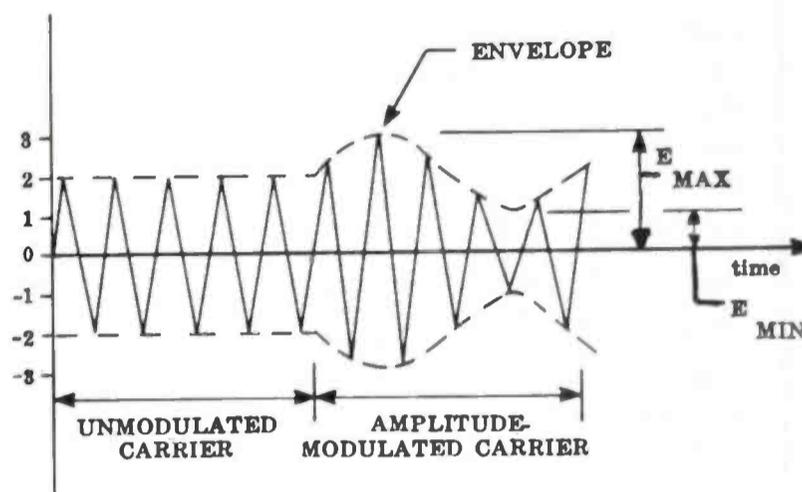

Figure 2
**1** The process of controlling radio waves for the purpose of transmitting a message is called modulation. Modulation is accomplished by controlling either the (1) amplitude, (2) frequency, or (3) phase of the radio wave known as the carrier. When the carrier is varied in correspondence with the strength of the audio (sound) signal, the radio wave is said to be amplitude-modulated. Hence the term "AM." Figure 2 shows typical signals for a simple sine wave, amplitude-modulating a higher radio frequency (r-f) signal. Of course, voice and other sound signals are much more complex than the sine wave, but this figure illustrates the basic amplitude-modulating process.
**QUESTION:** For the AM signal shown in figure 2, what is the modulation factor?